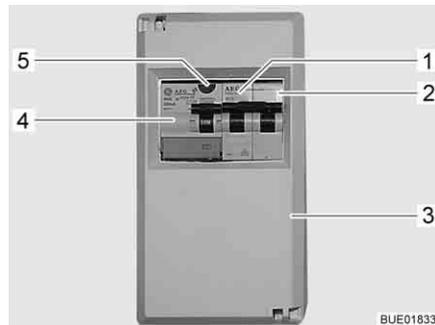

Fig. 107 230 V fuse box with safety cut-out and FI-switch
A fault current protection switch (FI-switch) (Fig. 107,4) in the fuse box (Fig. 107,3) protects the complete vehicle from fault current (0.03 A).
The downstream safety cut-out (10 A) (Fig. 107,2) secures the 230 V sockets, the power supply unit, the auxiliary charging unit and the refrigerator.
For vehicles with special equipment, e.g. air conditioning unit, an additional safety cut-out (16 A) (Fig. 107,1) secures the device.
- When the vehicle is connected to the 230 V power supply, press the test button (Fig. 107,5). The fault current protection switch (FI-switch) must be activated.